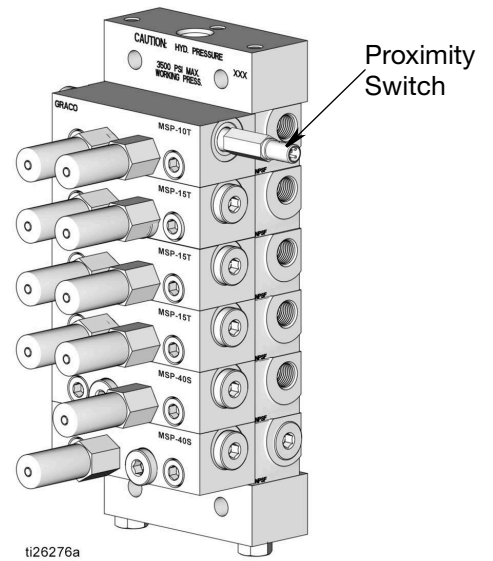

FIG. 9
7. Install the Proximity Switch to MSP Master/Secondary Divider Valve (FIG. 9).